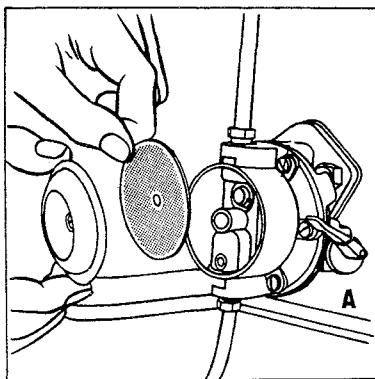

FIG. 8
4. Operate the priming lever at the side of the fuel lift pump (Fig. 8) until a flow of fuel, free of air, is expelled. Then close screw.